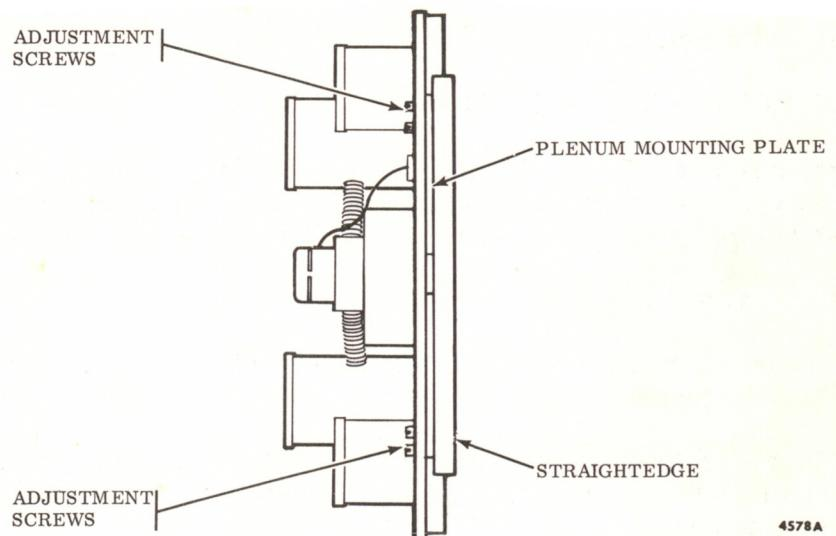

Figure 5.2-2. Plenum Mounting Plate Alignment
- d. Place a 24-inch standard steel straightedge vertically on the plenum mounting plate. (See Figure 5.2-2.)